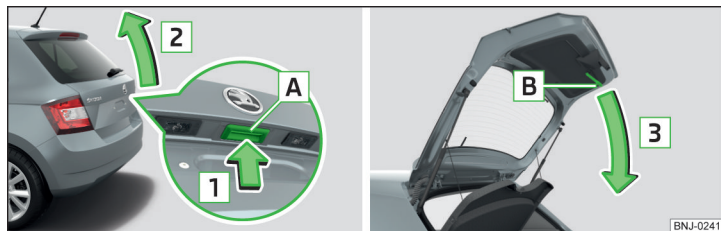

Fig. 37 Opening / closing the boot lid
- To **open** the lid, press button **A** in the direction of arrow **1** » Fig. 37.
Button **A** » Fig. 37 is disabled when starting off or driving at a speed of over 5 km/h. The button is reactivated when the vehicle has stopped and a door is opened.